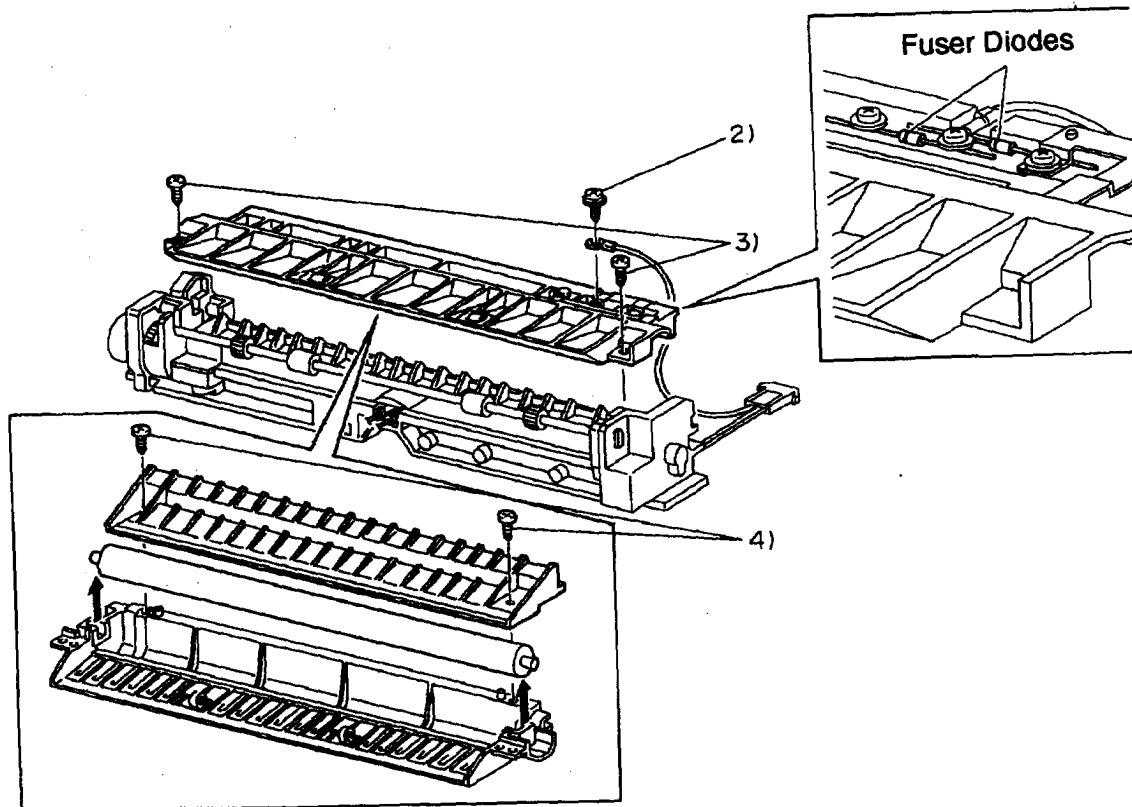

Figure 4-25. Removing the Upper Fuser Assembly
3. Remove the screw securing the green ground wire going to the diodes on the Fuser Inlet Chute, and remove the wire (Figure 4-25).